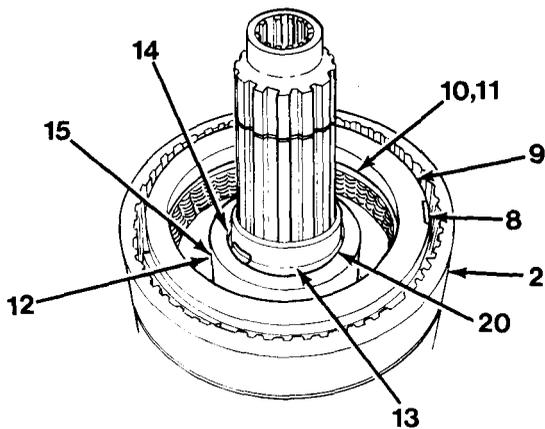

Figure 11-12
3. Install thrust washer (15), four springs (12) and snap ring retainer (14) in clutch shaft assembly (2, Figure 11-12).
4. Compress foursprings (12) and hold down to install snap ring (13).
5. Install snap ring (13) on clutch shaft assembly (2).